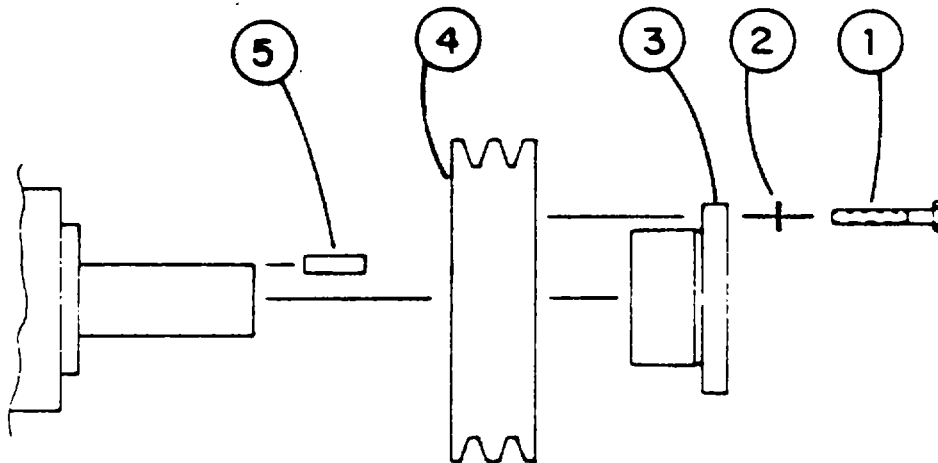

Figure 6-36. PTO Shaft
- (10) Slide drive sheave onto PTO shaft. (Figure 6-36)
- (11) Install shaft key into keyway in PTO shaft. Slide bushing onto PTO shaft. (Figure 6-36)
- (12) Install and secure three bolts and lock washers into drive sheave. (Figure 6-36)
- (13) Fill with oil. Install and secure inspection cover, gasket, bolts and washers.